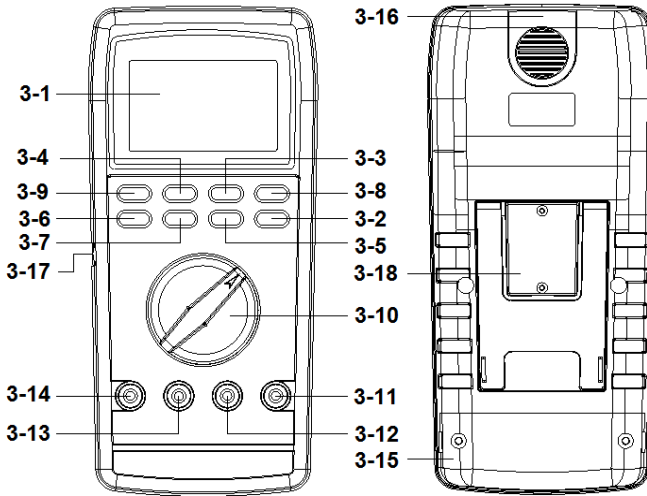

Fig. 1
- a. When not use the meter, should rotate the " Function rotary switch " (3-10, Fig. 1) to the " OFF " position.
Press the " TIME button " (3-3, Fig. 1) into the setting mode,the Poff set " no "
- 1) Connect BLACK test lead into " COM " terminal (3-12, Fig. 1).
- 2) Connect RED test lead into " V " terminal (3-11, Fig. 1).
- 3) Select the " Function rotary switch " (3-10, Fig. 1) to the " V " position.
- 4) Push the " AC/DC button " (3-9, Fig. 1) to select the " ACV " or " DCV " measurement,
- 6) Under the operation of " auto range " mode, push the " Range button " (3-6 Fig. 1) once will execute the " Manual Range " mode and hold the range, the LCD will show the " MANU " marker.
Under the manual range operation, push the " Range button " (3-6 Fig. 1) > 2 seconds, will return to auto range operation.
During the measurement, if push the " V/A/Hz button " (3-7 Fig. 1) once, until the LCD show the " Hz " marker and the display will show the frequency value of the measurement signal.
- 2) Connect RED test lead into " Ω " terminal (3-11, Fig. 1).
- 3) Select the " Function rotary switch " (3-10, Fig. 1) to the " Ω " position.
- 5) Under the operation of " auto range " mode, push the " Range button " (3-6 Fig. 1) will execute the " Manual Range " mode and hold the range, the LCD will show the " MANU " marker.
- 2) For the " mA, uA " measurement, connect RED test lead into " mA uA " terminal (3-13, Fig. 1).
For the " 10 A " current measurement, connect RED test lead into " A " terminal (3-14, Fig. 1).
- 3) For the " uA " measurement (600 uA, 6000 uA), select the " Function rotary switch " (3-10, Fig. 1) to " uA " position.
For the " mA " measurement (60 mA, 600 mA), select the " Function rotary switch " (3-10, Fig. 1) to " mA " position.
For the " 10 A " measurement (6A, 10A), select the " Function rotary switch " (3-10, Fig. 1) to " A " position.
- 4) Push the " AC/DC button " (3-9, Fig. 1) to select the " ACA " or " DCA " measurement,
- 3) Select the " Function rotary switch " (3-10, Fig. 1) to the "  " position.